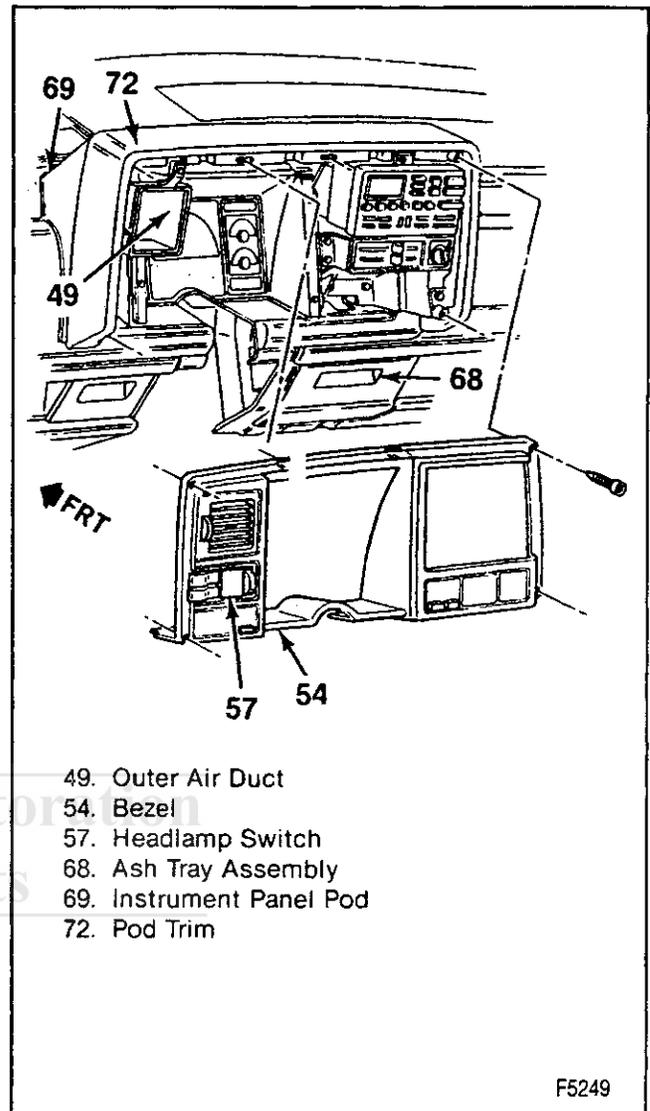

Figure 4—Instrument Panel Bezel
- Open the ash tray assembly (figure 4).
10. Four screws holding the bezel to the instrument panel carrier (figure 4).